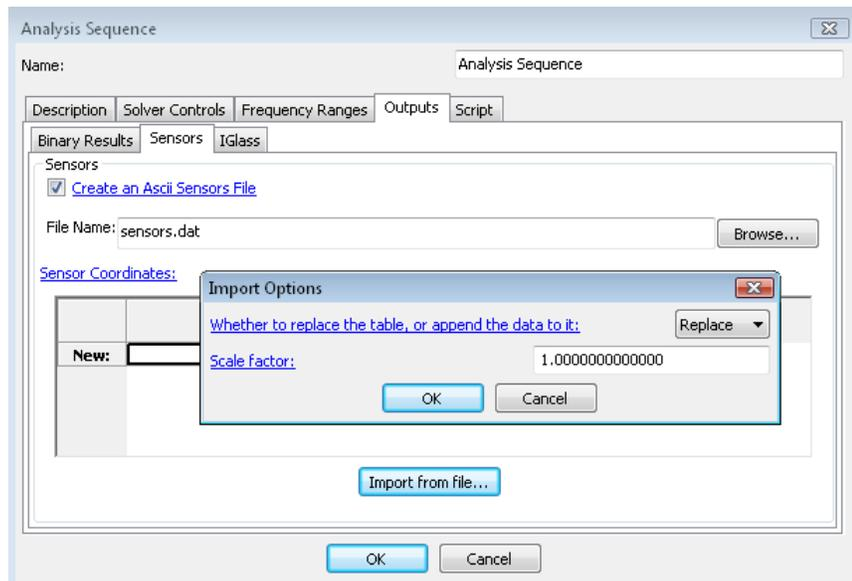

Figure 7.34 Import Sensor Coordinates from a File.
**7.3.3.3. Import From File** The sensor coordinates can be imported from an *ASCII* file with components separated by commas, tabs or spaces. The file must contain (first) three columns representing X, Y and Z coordinates of a sensor (Figure 7.34). The fourth column that is optional takes a valid string (use double quotes if there are spaces within a name) representing the domain name to which the sensor belongs to. Note that domain names are not read for sensors in *Indirect* models. Each new sensor is added to a new row. Import Options window opens up after the selection of the file with the following options:
**Whether to replace the table, or append the data to it** The imported data from the file can be used to either replace the current table or append to the existing table by the selection of one of the options: **Replace** or **Append**. (Figure 7.34)
**Scale factor** All the values in the *ASCII* file are multiplied by the Scale factor before being read into the table (Figure 7.34). This is specifically useful when the imported file has different units compared to *Coustyx* model. A unit conversion factor should be used as the Scale factor to convert these values. For example, when the coordinates in the *ASCII* file are in m and the *Coustyx* units are in mm, a Scale factor of  $10^3$  is entered to convert the values in the file from m to mm. A Scale factor of 1 imports the values as they are.